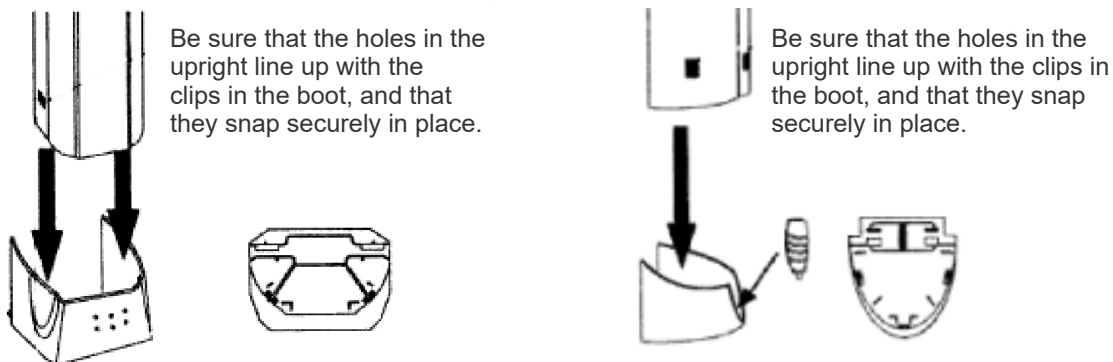

Fig. 53
- Models with resin bottom cuffs, instead of bottom plates, do not require hardware in order to secure the upright at the bottom. Simply line up holes in the lower portion of the upright with the corresponding clips in the bottom cuff and push them down until they lock in place. (Fig.53). When this is done properly the upright will not be able to be pulled up without bringing the bottom cuff with it.